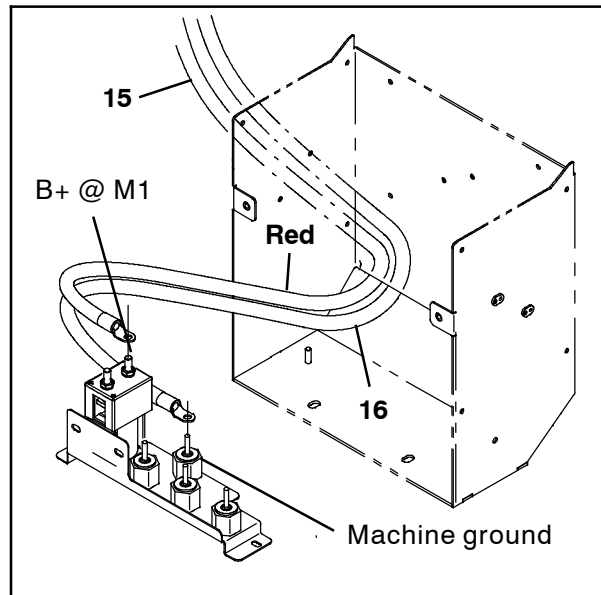

**FIG. 8**
7. Route the battery cable (15) red cable and the black cable (16) down towards the floor and then up along the frame of the machine to the hole in the electrical compartment. (Fig. 8 / Fig. 9)